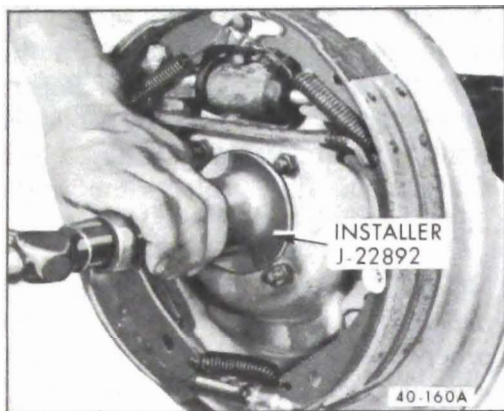

Figure 40-131 Installing Axle Shaft Seal
3. Position seal over Installer J-22892 and drive seal straight into tube until installer bottoms against wheel bearing shoulder. See Figure 40-131.